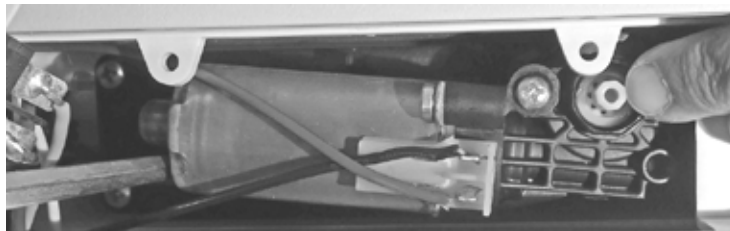

Figure 9
6. An emergency crank is supplied. In the unlikely event that the motor fails, the emergency crank may be used to close the hatch. Follow this procedure. Cut the power to the hatch. Remove the switch cover to gain access to the drive gear box. Push and hold the white motor release button indicated in the photo in Figure 9. Insert the emergency crank into the white drive socket just off the end of the motor. Carefully raise or lower the dome as needed. If the system binds, try again to fully push the release button. Once the problem with the motor is resolved, normal operation may be resumed by simply activating the